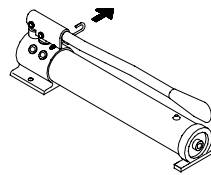

Figure 5 - Pull spring loaded lock pin, pivot toward rear to unlock pump handle.
- Pull spring loaded lock pin, pivot toward rear to unlock the handle (Fig. 5).
- Pull spring loaded lock pin pivot toward rear to unlock the handle (Fig. 5).